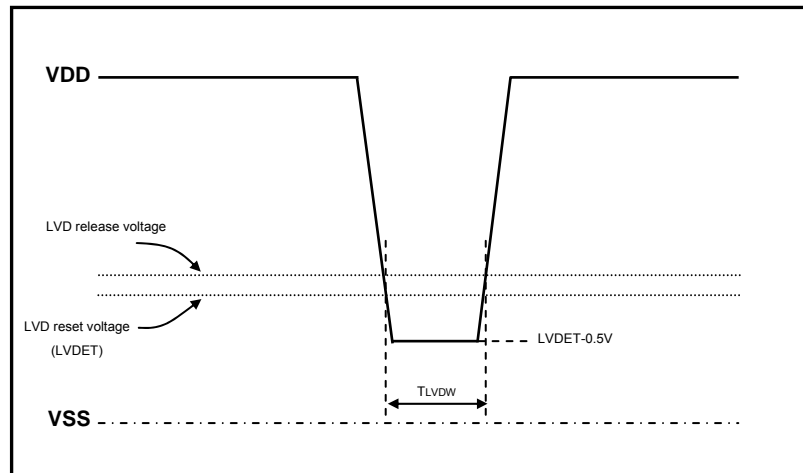
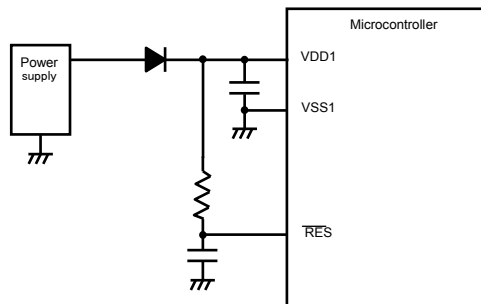

Figure 4.7.4 Example of Momentary Power Loss or Voltage Fluctuation Waveform
Figure 4.7.5 Example of Momentary Power Loss or Voltage Fluctuation Countermeasures
- The response time measured from the time the internal LVD detects a power voltage drop at the option-selected level until it generates a reset signal is defined as the minimum low-voltage detection width TLVDW as shown in Figure 4.7.4 (Refer to the latest “SANYO Semiconductor Data Sheet” for details.). If momentary power loss or power voltage fluctuations shorter than this minimum low-voltage detection width are anticipated, be sure to take the preventive measures shown in Figure 4.7.5 or other necessary measures.